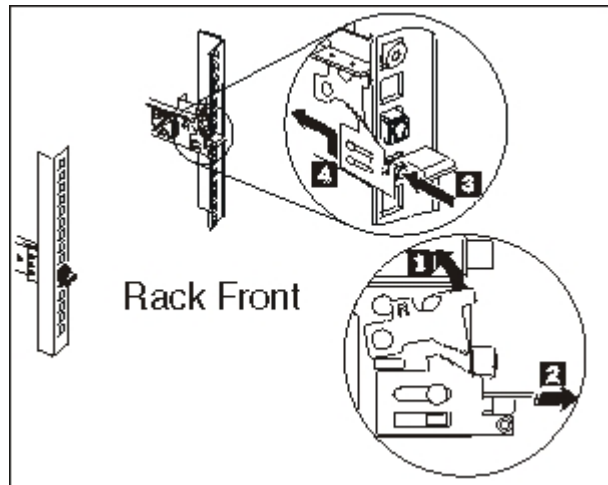

Figure 23. Removing the end of the slide rails
4. Remove the end of the slide rails, as shown in Figure 23.